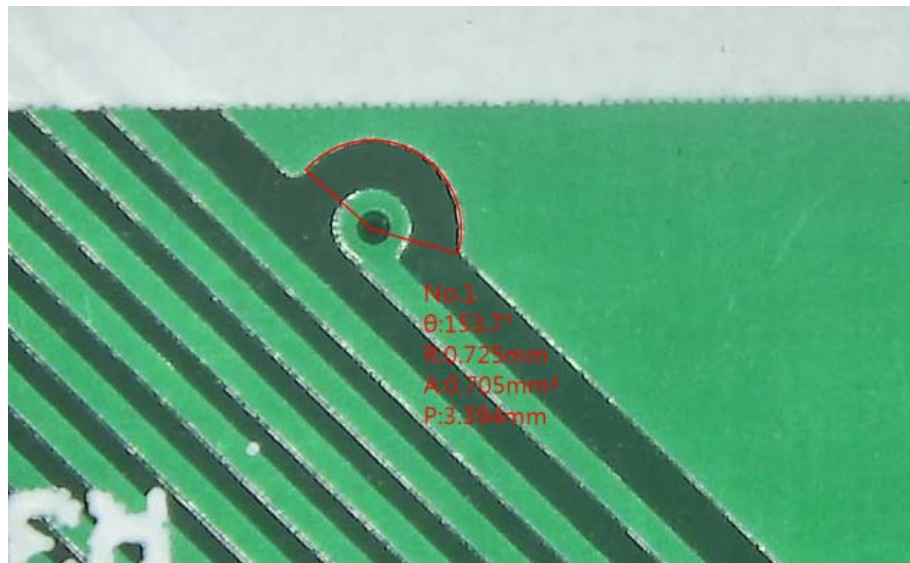

Fig.5-8 Arc area
- (4) Arc: Apply  to measure Arc , see FIG. 5-8. 1st click at the edge of measuring object and then 2nd click on the other side, continue moving mouse till arc area match the measuring object, finalize 3rd click. Below measuring data show Int. angle is 153.7° , radius is $R=0.725\text{mm}$, area is $A=0.705\text{mm}^2$, perimeter is $P=3.394\text{mm}$.